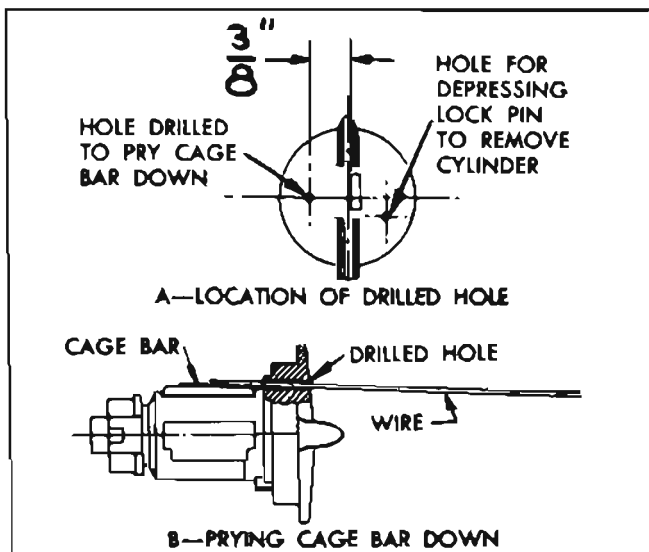

Figure 10-79—Removing Lock Cylinder having a Loose Cage Bar
To remove lock cylinder, insert key and turn ignition switch to "OFF" position. Insert a stiff wire (paper clip) in small hole in face of cylinder (fig. 10-79, view A) to depress the pin which locks the cylinder, turn cylinder clockwise and pull out. To install lock cylinder insert key, place cylinder in switch slightly clockwise from "OFF" position, press inward and turn cylinder counterclockwise.
1. Draw a centerline on cylinder at 90° to key slot, insert key, and make a prick punch mark on centerline  $\frac{3}{8}$ " from side of key. See figure 10-79, view A. Carefully drill a .0465 hole (No. 56 drill) through cylinder flange at this point.
2. File the end of a stiff wire (paper clip) to a taper. Insert this end of wire in drilled hole to pry the cage bar assembly down so that lock cylinder can be turned. See figure 10-79, view B. After turning cylinder slightly, remove the wire to avoid wedging, then remove lock cylinder in the regular manner (subpar. b, above).